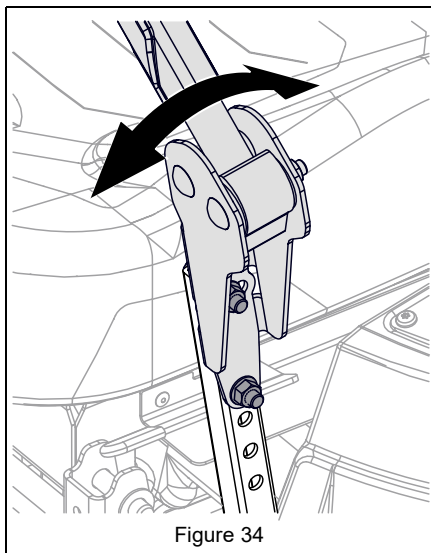

Figure 34
5. Loosen mounting hardware, align levers and tighten hardware. See Figure 34.